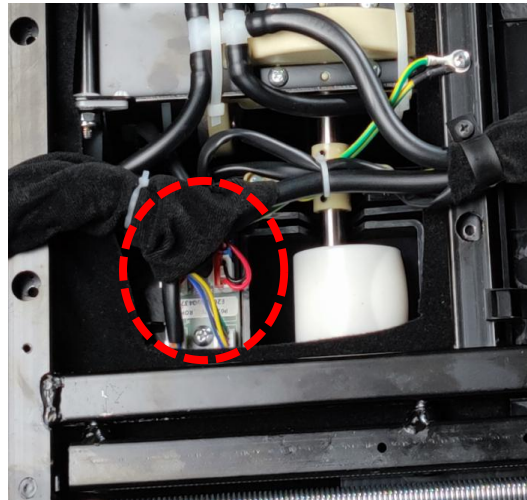
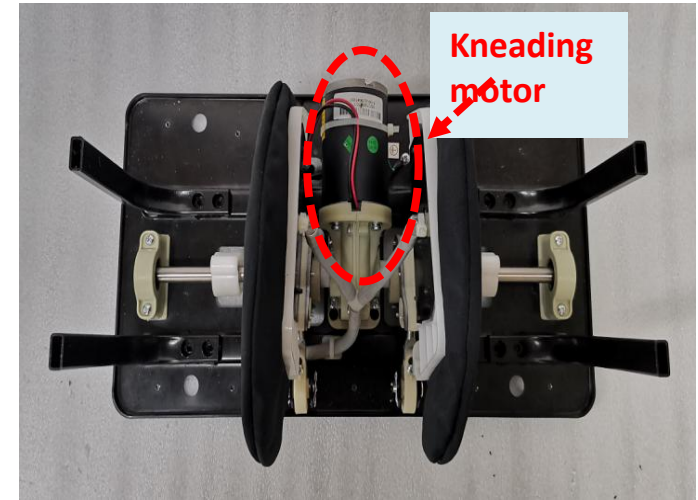

Figure 2
Figure 3
**If the driving board kneading plug-in is not loose, and DC24V voltage output normal, check whether the calf adapter board plug-in is loose (Figure 2), if those all are ok, change a new kneading motor to try (Fig. 3);**